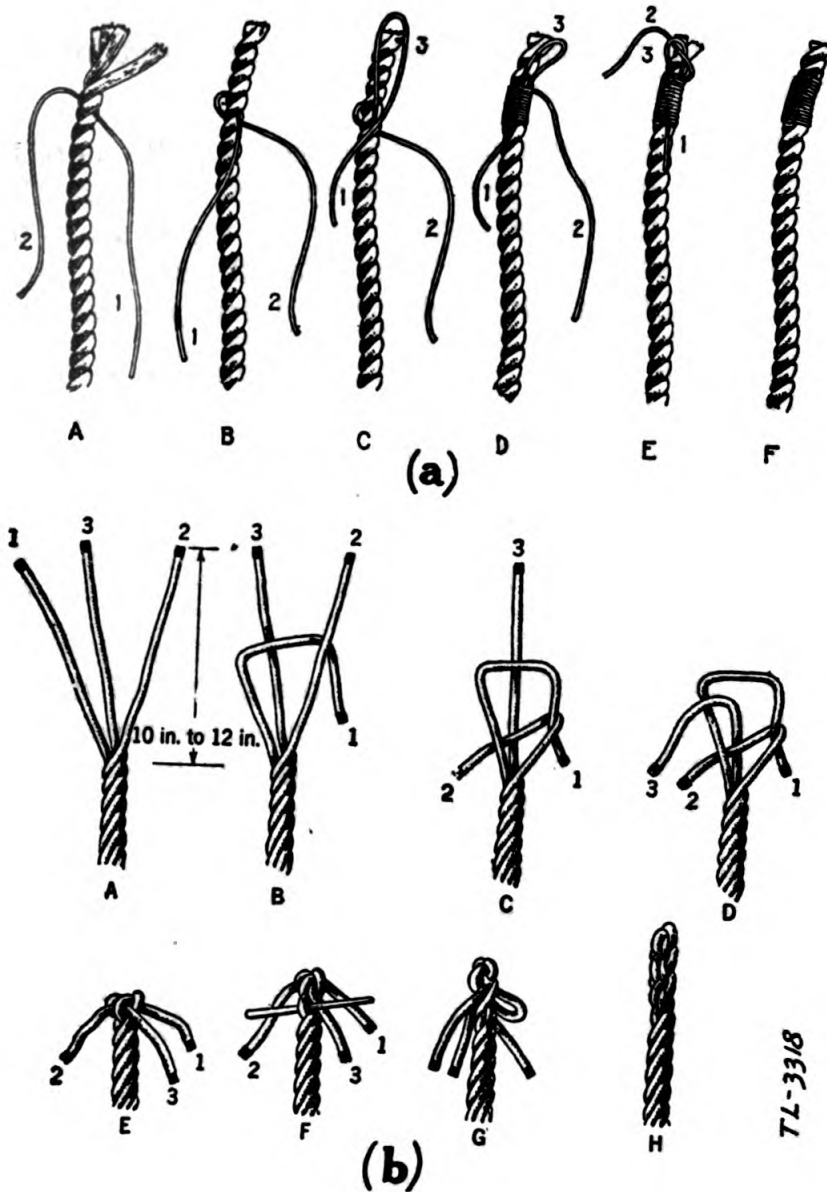

Figure 2
2. The more common rope splices.—*a. Serving splice (whipping).*—The operations required to serve the ends of a rope are as follows. See figure 2(a).
(1) Unlay one strand of the rope back a little more than one turn, to a point where the serving is to begin. Under this strand lay the twine, leaving the end marked 1, 8 to 10 inches long as shown in 2-A. Then relay the strand into the rope, keeping it tightly twisted and held firmly in place.
(2) Let the short end of the twine 1, hang down the rope. Wind the long end of the rope marked 2, around the rope, just above the short end as shown in 2-B.
(3) Lay the end of twine 1, along the rope towards its end and there bend it back, thus forming the open bight 3, as shown in 2-C, which can be pulled in under the serving when tucking the ends.
(4) Lay the sides of the bight 3, in a groove of the rope. Wind the long end of the twine 2, around the rope and the doubled twine, being careful to pull it up tightly and to leave no open spaces between the turns as shown in 2-D.
(5) Continue winding as far as desired, then pass the long end 2 of the twine through the bight 3, as shown in 2-E, and pull the long end up firmly. By pulling on the free end 1, of the bight 3, draw the long end of the twine 2, downward underneath the serving, to about the center, *not all the way through*.
(6) Finish the serving by cutting off the two protruding ends of the twine as closely as possible. Cut off excess rope as shown in 2-F.
b. Crown splice.—See figure 2(b).
(1) Unlay the rope for 10 to 12 inches and hold it in one hand with the loose ends up as shown in 2-A.
(2) Take strand 1 on the left and lay it across the end of the rope between the other two strands as shown in 2-B.
(3) Take strand 2 back and down over strand 1 as shown in 2-C.